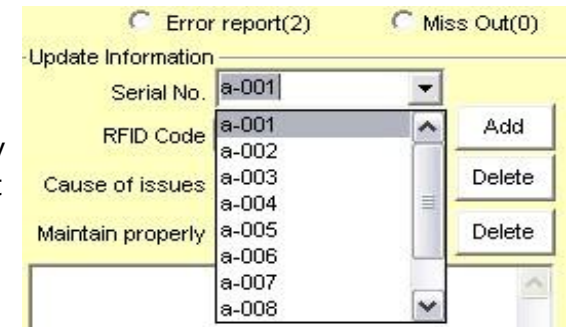

Fig.11
- ❶ Go to **Progress Report**, click **General Record** (Fig.11) and check **Error Report** and **Miss Out**. If there is no lubricator missed out and all bearing are in good working condition, the program will automatically transfer the inspection route report to **Individual Record**.
- ❷ If there had any bearing abnormality occurred, the program will automatically list out the abnormality at **Error Report** or **Miss Out**. (Fig.11).